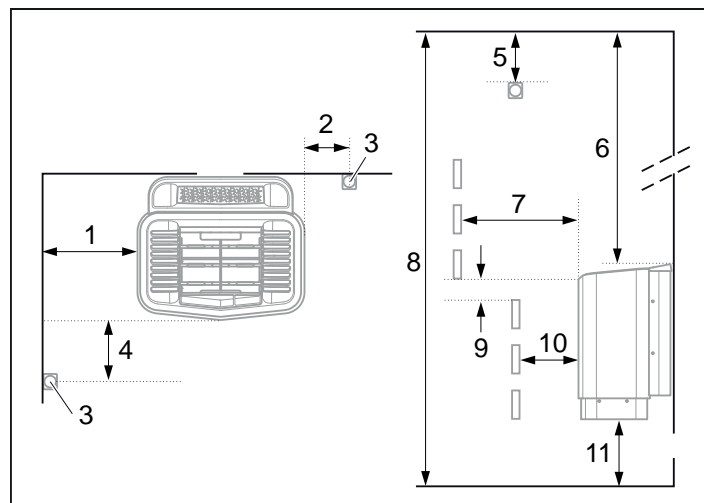

Figure 3: Positioning the heater - normal installation
- Plan the sensor positioning (see Figure 3, page 4).
- Position the heater at a safe distance from the floor, side walls and interior fittings (see Figure 3).
Position the sensor according the picture (see Figure 3).